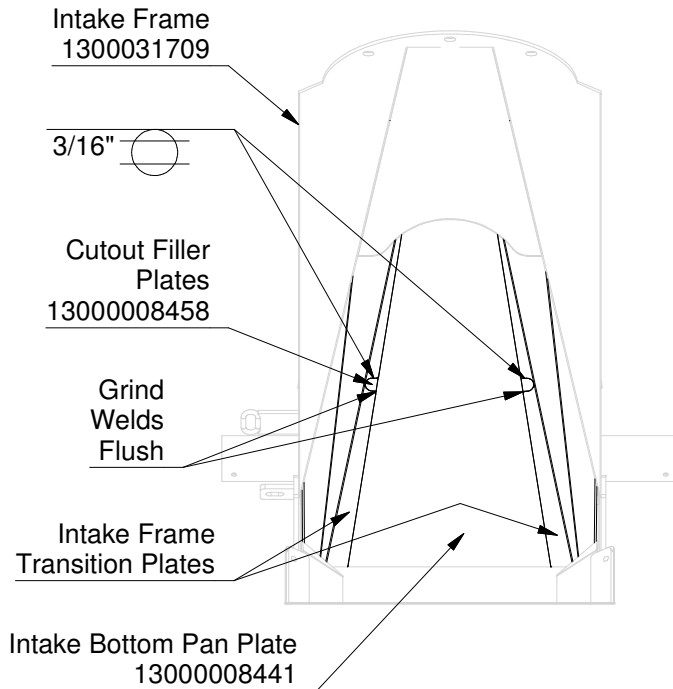

FIGURE 5
5. Weld the Cutout Filler Plates to the Intake Frame Transition Plates and Intake Bottom Pan Plate. After welding in the Cutout Filler Plates, grind the welds flush with the top of Intake Frame Transition Plates. See Figure 5.